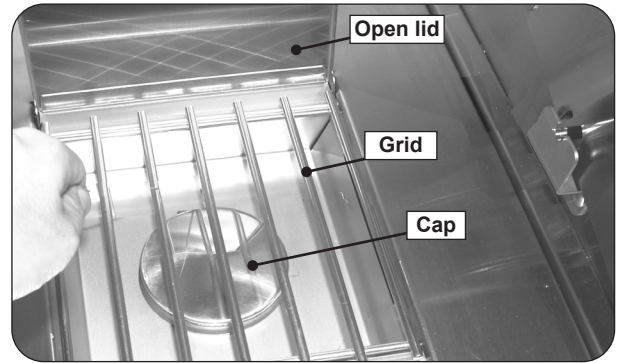

Fig. 22-2 Place burner cap and grid
5. Place the burner cap on top of the burner, as shown in Fig. 22-2.
6. Place the grid so that it rests on the front and back lips of the sideburner opening (Fig. 22-2).